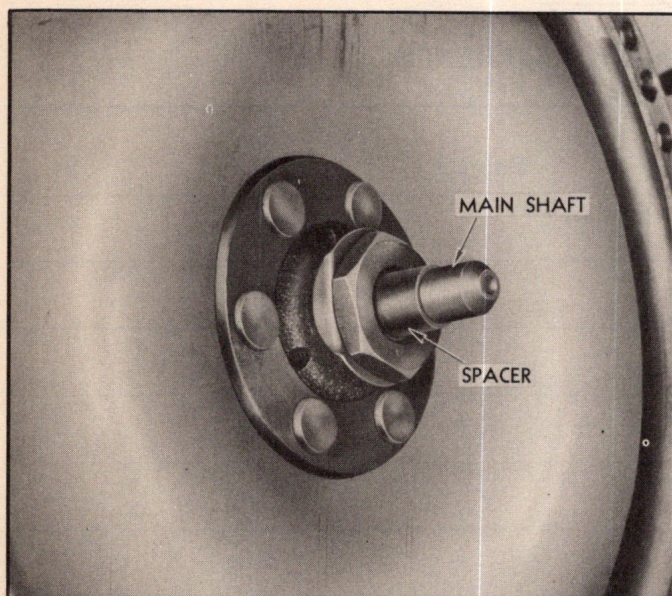

Fig. 315—Pilot Bearing Spacer on End of Main Shaft
4. Install pilot bearing spacer on end of main shaft (Fig. 315).